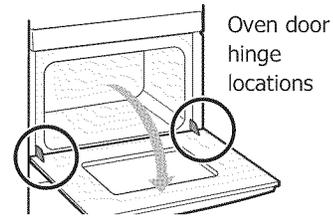

Figure 21: Door hinge location
1. Open oven door completely horizontal with floor (See Figure 21).
3. Fully open the oven door, horizontal with floor See Figure 21).